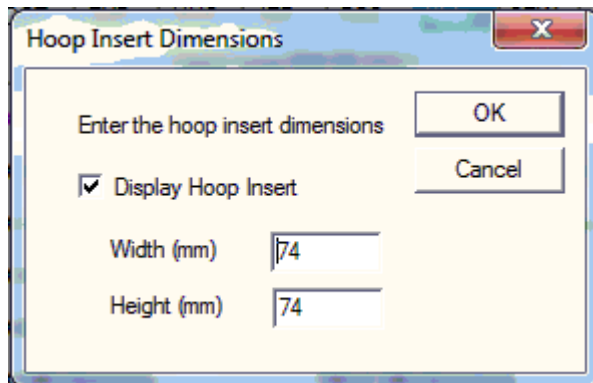

Fig 3 Dialog for displaying and setting the Hoop Insert dimensions
- **Hoop Insert** Displays (or hides) a user-selectable hoop insert (for example, a "Fast Frame"). When this button is clicked, the hoop insert dimensions dialog is displayed (see Fig. 3). You can set the width and height for the insert hoop, and whether or not it will be displayed in the **SewWhat-Pro** workspace. If the width or height of the insert exceeds the hoop dimensions, it will not be displayed even if the display check box is checked.
- **User Hoops** On the far right of the tab list (use the horizontal scroll arrows to get there) is a special *User* hoop tab. You can enter your own special hoop sizes there by typing into the edit box the height (H) and width (W) of the hoop in the presently selected units (mm or in). Be sure to enter this information in the format "H X W". Note that this feature is included as a convenience for on-screen display, but in general, the user hoop will *not* be retained when the file is saved. Rather, the nearest available hoop for that embroidery type will be used.